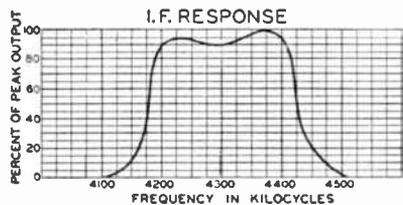

Fig. 1—The curve above shows typical FM i.f. response at frequencies near the i.f.
A basic diagram of a source coupled to a load is shown in Fig. 1. If the source resistance (R_1) is kept very low, voltage regulation will be
Fig. 1—left—Basic diagram of voltage supply and load. If source resistance is kept low the voltage regulation will be good. Fig. 2—right—Voltage regulation may be tied in with the storage of energy in a condenser and choke.
High-resistance supplies may be used with devices which draw very little current. By having more than 90% of the total circuit resistance in R_1 (Fig. 1) any change in the load impedance can only have a 10% effect on the circuit as a whole.
The new sets tune from 88 to 108 megacycles, while the older FM sets tuned from about 40 to 50, and the broadcast receivers from .55 to 1.6 megacycles. The intermediate frequencies are also much higher. The FM set may have an intermediate frequency of 4.3 mc in the older sets (Fig. 1) or 10.7 mc in the post-war receivers designed in conformity with RMA standards. Other intermediate frequencies may be found, which do not agree with either the old or new standards. All these are almost equally high as compared with common broadcast i.f.'s, which are usually near 455 kc.
In Fig. 1 is shown the schematic of a conventional FM receiver. We will assume that the i.f. of this receiver is 10.7 mc, and that it is push-button tuned. We will follow through all of the adjustment and maintenance steps in such a manner as to make them applicable to any other FM receiver. An itemized list of the parts used in the receiver is given in chart 1, on page 64.
- (b) Connect "hot" lead of signal generator to grid of 2nd Limiter V5 through a .01 μ f paper condenser. (Point 1 on Fig. 1.)
- (f) Connect the "hot" lead of the v.t. voltmeter to the negative side of R26 (point 2 on Fig. 1) and the "cold" lead to ground.
- (k) Disconnect the "hot" lead of the v.t. voltmeter from point 2 and connect it to point 4 on Fig. 1. You will now be reading the total d.c. voltage across R25 and R26.
- (l) Adjust the secondary trimmer (5) of T4 for *zero* voltage indication on the v.t. voltmeter.
Function of Component Parts of Fig. 1